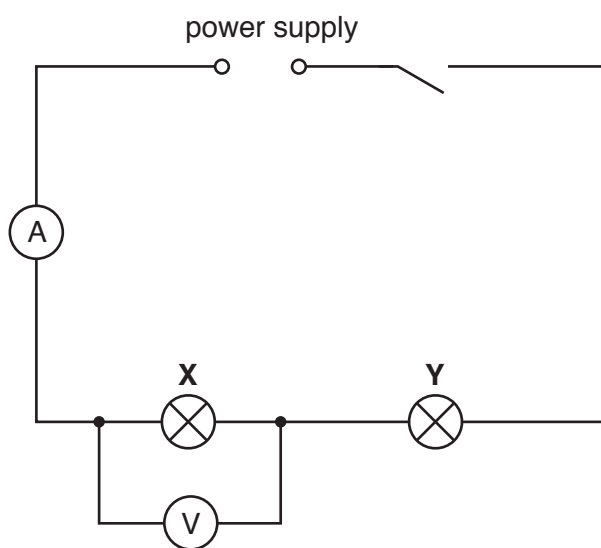

Fig. 2.1
- (iv) Sufficient connecting leads to set up the circuit shown in Fig. 2.1, with 4 spare leads.
1. The circuit is to be set up for candidates as shown in Fig. 2.1. The voltmeter must have leads and terminals that enable it to be connected to different parts of the circuit.
Connect the circuit as shown in Fig. 2.1 and check that the circuit is working.